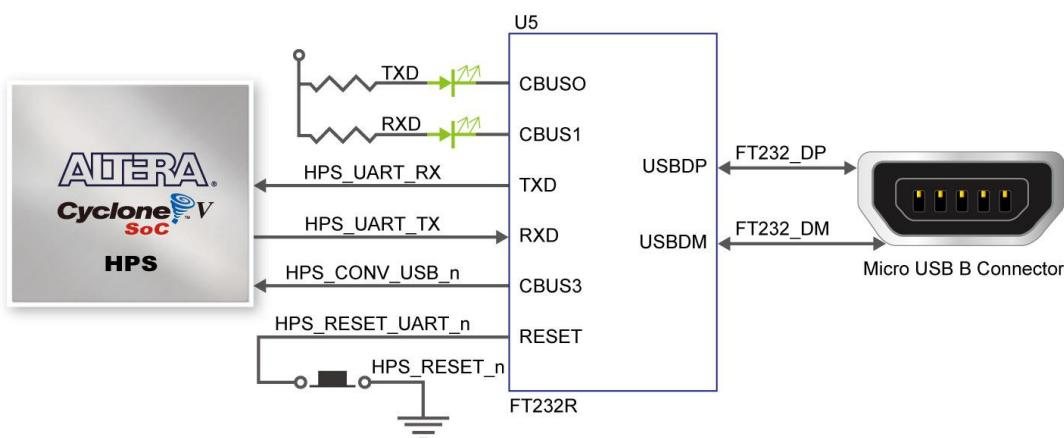

Figure 3-23 Connections between the Cyclone V SoC FPGA and FT232R Chip
The board has one UART interface connected for communication with the HPS. This interface wouldn't support HW flow control signals. The physical interface is done using UART-USB onboard bridge from an FT232R chip and connects to the host using a Micro-USB (B) connector. For detailed information on how to use the transceiver, please refer to the datasheet, which is available on the manufacturer's website, or in the Datasheets\FT232 folder on the SoCKit System CD. Figure 3-23 shows the related schematics, and Table 3-24 lists the pin assignments of HPS in Cyclone V SoC FPGA.